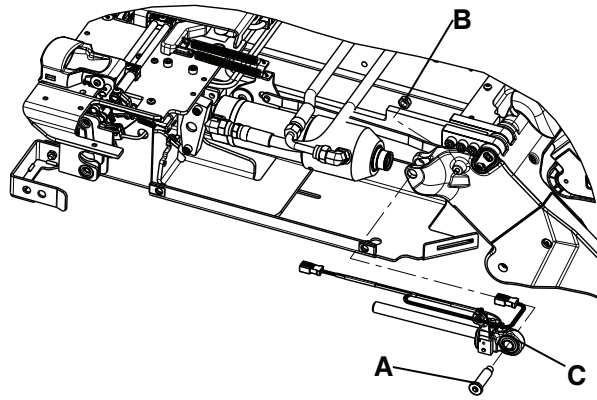

Figure 18 – Hydraulic cylinder rod end assembly
4. Using a 1/4" hex wrench and a 1/2" combination wrench, remove the end cap cylinder pin (A) and nut (B) (Figure 18).
- While lifting up on the cylinder, pull the hydraulic cylinder rod end assembly (C) out and discard (Figure 18).